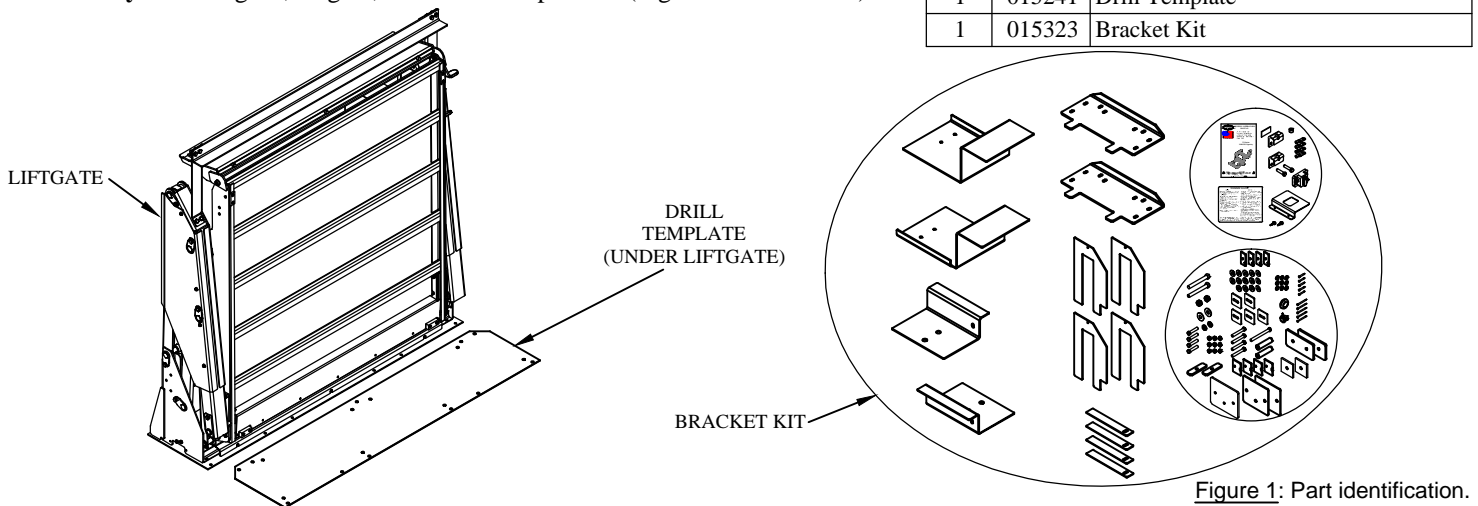
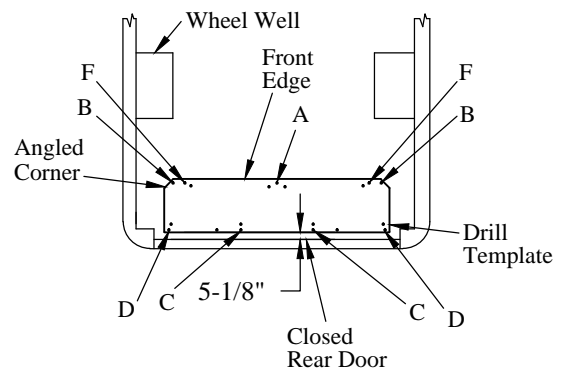

Figure 1: Part identification.
Figure 4: Drill template location (top view).
2. **Verify** mounting kit, liftgate, and other components (Figure 1 and Table 1).
2. **Place** the drill template in the rear of the van (Figure 4):
11. **Place** the drill template (Figure 1) in the rear of the van (Figure 4):